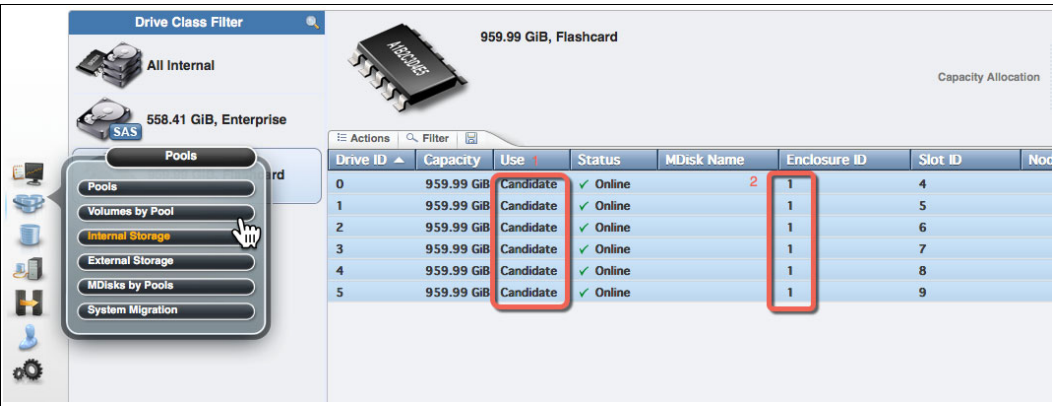

Figure 7-30 Drives in Candidate state for Enclosure ID 1
5. The drives that made up the MDisk are now in candidate state (1) for Enclosure ID 1 (2) shown in Figure 7-30.